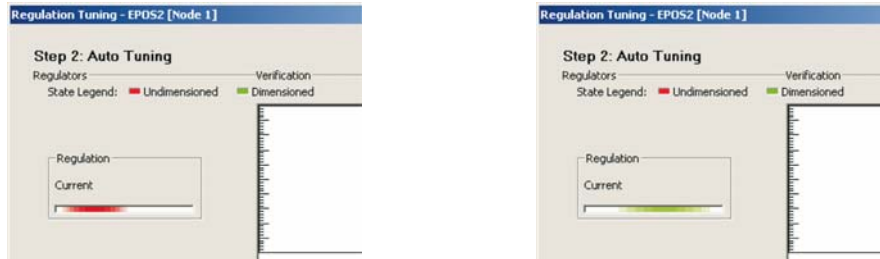

Figure 3-33 Regulation Tuning – Identification (left) / Verification (right)
- First, control parameters will be identified – during this process, the motor shaft will oscillate, the respective red status bar will be moving (→ Figure 3-33, left).
- Then, identified control parameters will be verified by evaluating their step response – during this process, the motor shaft will oscillate, the respective green status bar will be moving (→ Figure 3-33, right).